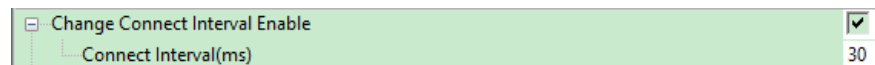

Figure 27
- Change Connect Interval Enable: Click to enable “Change BLE Connection Interval”, as shown in Figure 27. Click the additional item to enter a connection interval value.